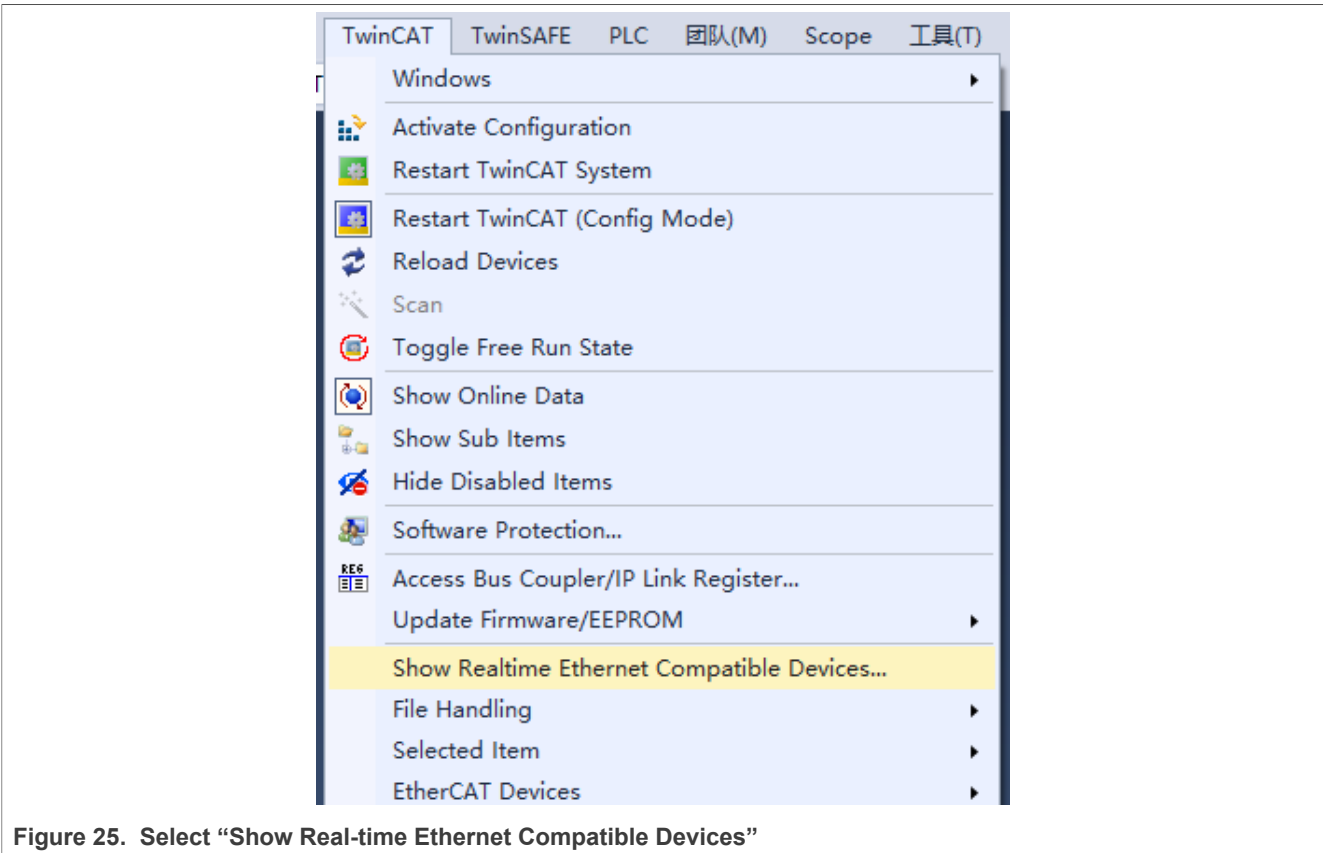

Figure 25. Select “Show Real-time Ethernet Compatible Devices”
- 3. Keep TwinCAT in Config mode and select “**Show Realtime Ethernet Compatible Devices...**”, as shown in Figure 25.